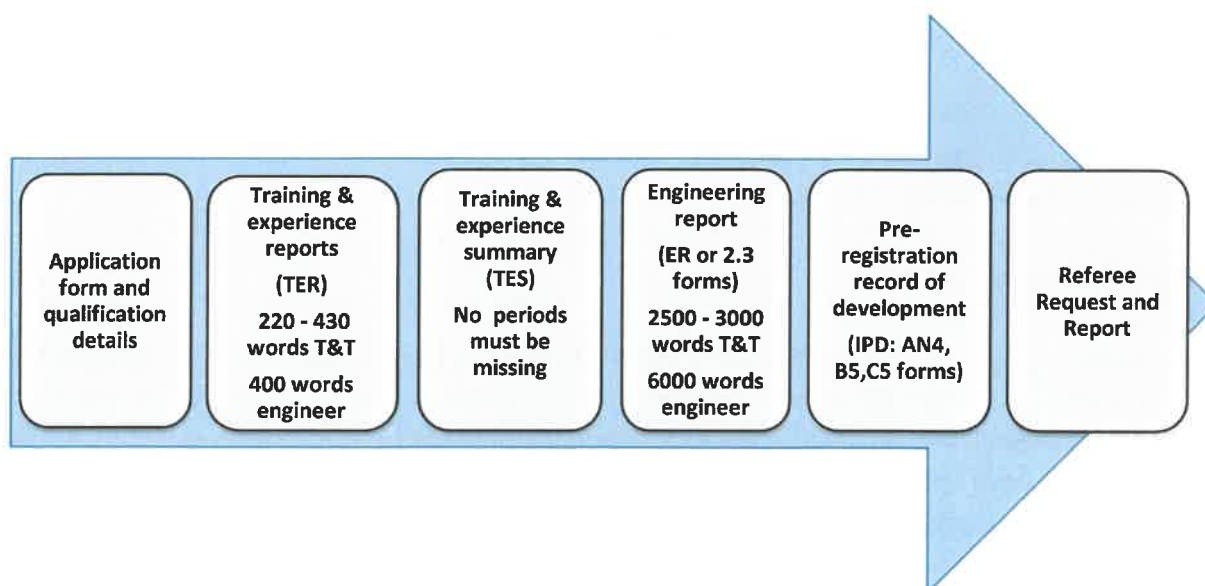
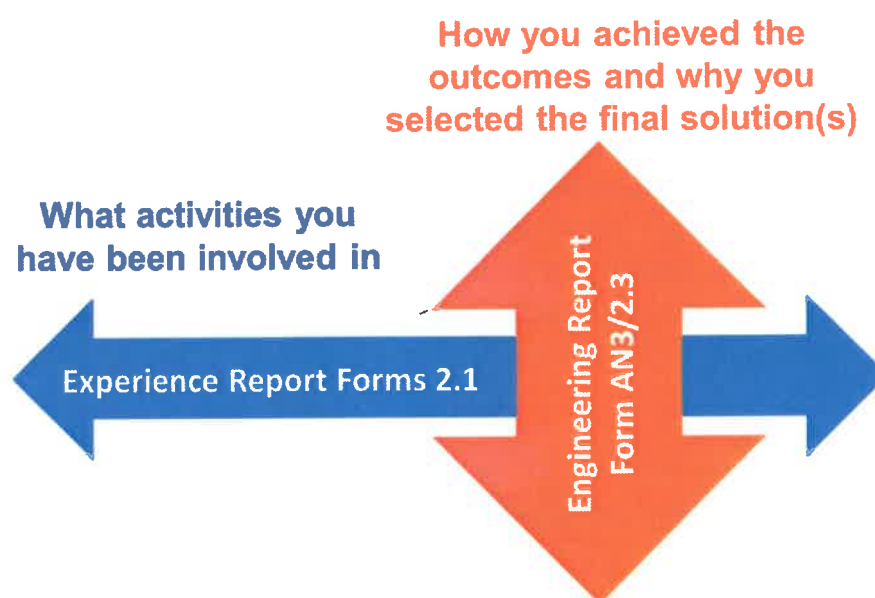

FIGURE 7: FORMS TO BE COMPLETED
FIGURE 8: REPORTING ON THE BREADTH AND DEPTH OF TRAINING
All the forms to be completed are available on the ECSA website, www.ecsa.co.za. The main forms to be completed are shown in Figure 7.
As shown in Figure 7, there are several forms and reports to complete. The first forms are for information – the candidate’s name, contact details, qualifications, referee details etc. The main forms in which the candidate describes work experience and how the outcomes were achieved, are the Training and Experience Reports (or Outlines) (TERs or TEOs) and the Engineering Report (ER). Each set of forms has a different purpose, as shown in Figure 8.
than the 280 or 430 words in some of the reports. As shown in Figure 8, the intention of the TERs is to demonstrate the range or breadth of experience.